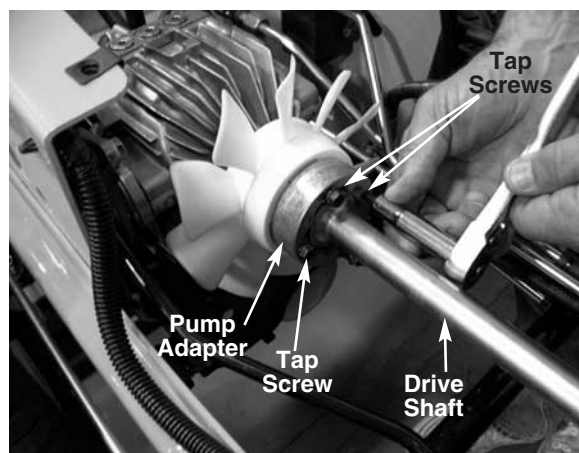

FIGURE 1.
2. Remove all four of the hex head tapp screws that connect the drive shaft to the pump adapter using a 3/8 socket. See figure 1.